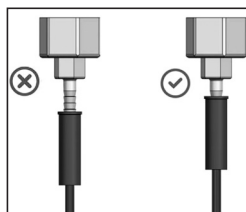

Fig. 1
2. Attach the oxygen input connector/s A and B to the flowmeter/s (see figure 1). Check proper connection before activating the gas supply.